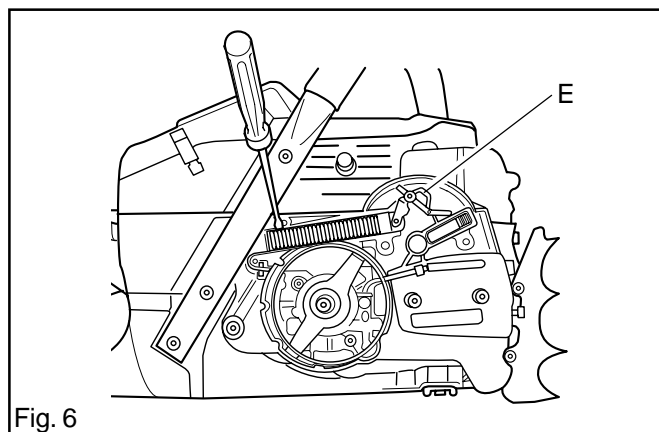

Fig. 6
9. Remove the pressure spring by freeing the back end with a screw driver. See fig. 6.
10. Remove the toggle joint (E) with attached brake strap. See fig. 6.